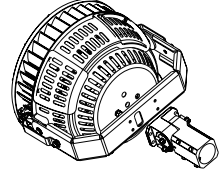

Fig. 5
3. Attach the slip fitter mounting adaptor with bolts. Adjust the required angle using slip fitter ratchet and tighten (Fig 5).